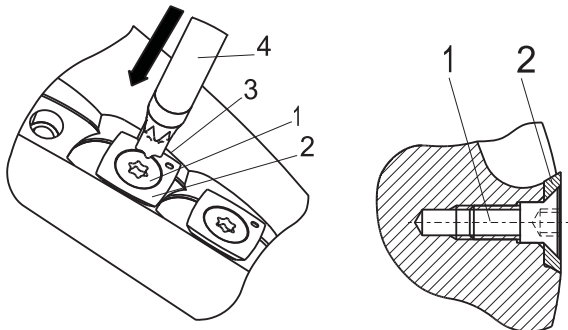

Fig. 4
see Fig. 4)
2. Loosen the screw (1) with the Torx key (4) and remove it completely from the knife seat.
3. Remove the CASTOR knife (2) from the knife seat.
4. Clean the knife seat (3) and all the corresponding components that go with it. Be sure all clamping surfaces are free from dirt, oil, grease and water.
5. Carefully insert the reversed or new CASTOR knife (see Fig. 4).
7. Tighten with the corresponding torque wrench (4) at the specified torque of 4 Nm.